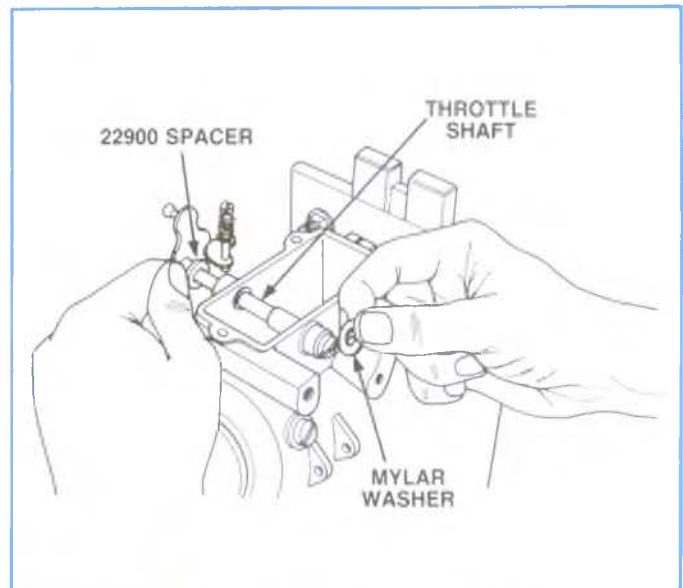

Figure 4-139, Installing Throttle Shaft and Clip.
1. Install the throttle shaft, with throttle shaft spacer, new seals and mylar washer. (Figure 4-139 Left).